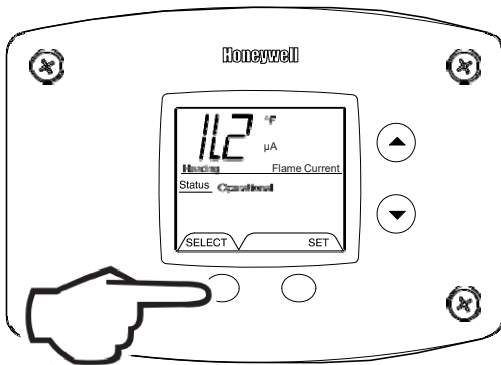

Fig. 45
3. Flame Current of Pilot Flame Sensor (Displays only in the Heating Cycle) (Fig. 45).